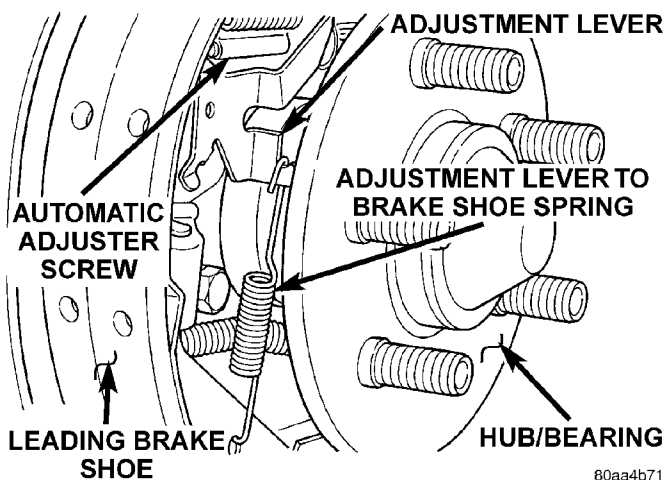

Fig. 81 Automatic Adjustment Lever Spring
(5) Remove the adjustment lever to leading brake shoe spring (Fig. 81).
(9) Install the automatic adjustment lever to front brake shoe assembly spring (Fig. 81).
(10) Adjust brake shoes assemblies so as not to interfere with brake drum installation.
(11) Install the rear brake drums on the hubs.
(12) Adjust rear brake shoes per Adjusting Rear Brakes procedure in the service adjustments section of the service manual.
(13) Install the wheel and tire assembly.
(14) Tighten the wheel mounting stud nuts in proper sequence until all nuts are torqued to half specification. Then repeat the tightening sequence to the full specified torque of 135 N·m (100 ft. lbs.).
(15) Road test vehicle. The automatic adjuster will continue the brake adjustment during the road test of the vehicle.